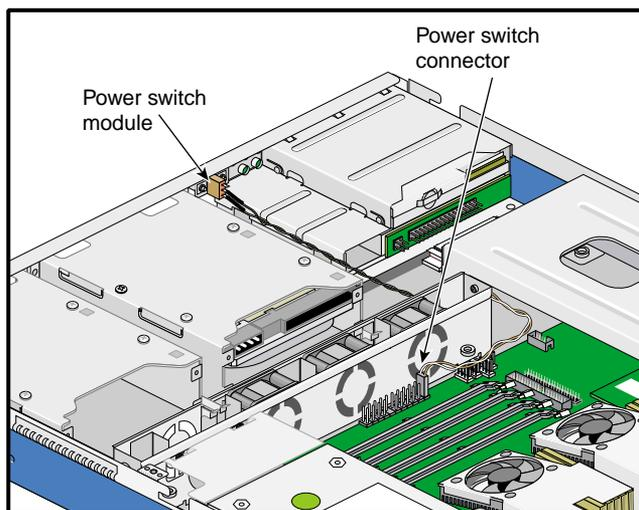

Figure 2-17 Location of the Power Switch Cable Connector
2. Disconnect the power switch cable connector from the system board. See Figure 2-17 for the location of the power switch cable connector.
2. Connect the power switch cable connector to the system board connector CN15, pins 1 and 2. See Figure 2-17 for the location of the power switch cable connector.